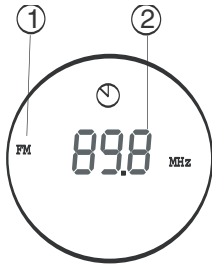

Fig 1
1. In the Radio mode, refer to figure 1.